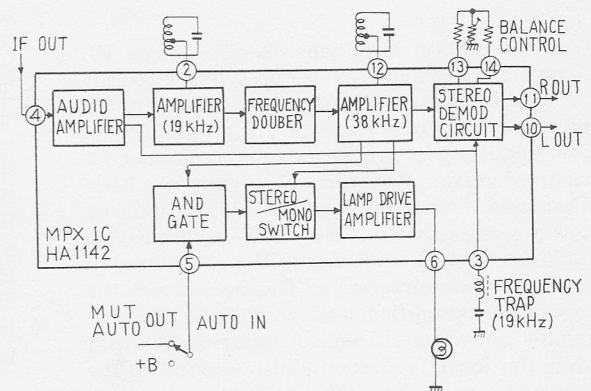

Fig. 2
The FM MPX section consists of a single IC. Construction of this IC is shown in Fig. 2. Demodulation of the signal is effected with two differential amplifiers in a "double balanced differential amplifier circuit." This arrangement provides excellent channel separation over a wide band, rejects SCA beat interference, and results in low carrier leakage and distortion. The composite signal from the IF section is applied to pin (4) of the IC and is subjected to single stage amplification. Output is split to a pilot signal path, main path (L+R), and sub path (L-R). Main and sub signals pass through a 19kHz trap circuit to the demodulator. The pilot signal is subjected to selective amplification in a 19kHz tuned amplifier and is converted to 38kHz with next multiplier circuit. The 38kHz switching signal is applied to